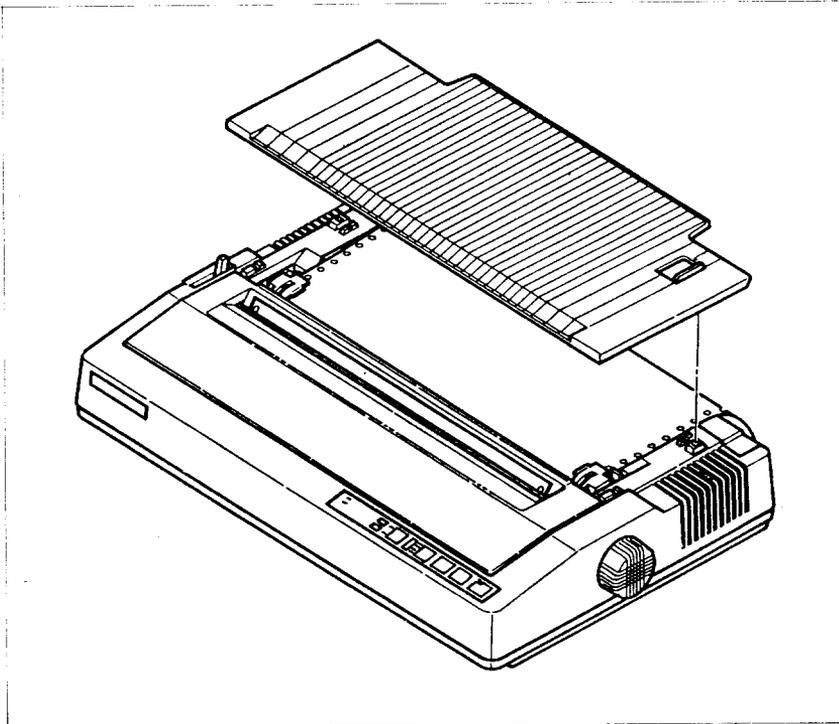

Figure 2-9. Ready to load the sprocket-feed paper. Note the reversed position of the paper guide.
11. Install the paper guide on the printer. See Figure 2-9 for details. When used with sprocket-feed paper, the guide is turned around and laid flat on top of the printer as a paper separator. Make sure that the tabs on the guide fit into their receivers.